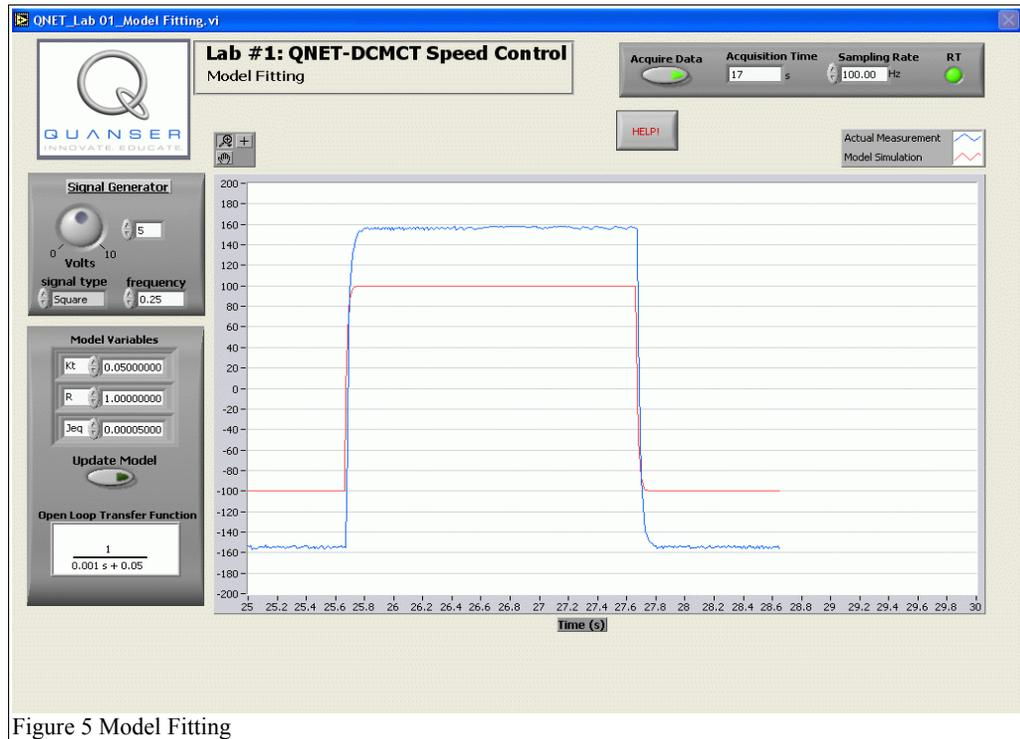

Figure 5 Model Fitting
- Step 16. After the open-loop properties have been investigated, make sure the parameters are set back to those originally identified. Select the *Model Fitting* tab that load the VI shown in Figure 5 and continue with the laboratory.
- Step 17. As depicted in Figure 5, the scope displays the simulation of the motor speed response, generated using the mathematical model developed, and the actual motor speed response, measured using the tachometer sensor. The QNET motor is being driven by the signal generator.